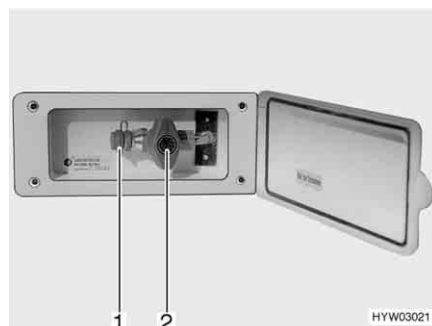

Fig. 159 External gas connection, gas isolator tap closed
The external gas connection (Fig. 159) is located at the rear or to the left or right of the vehicle depending on the model.
- Connect the external gas device to the connection point (Fig. 159,1).
- Open the gas isolator tap (Fig. 159,2).